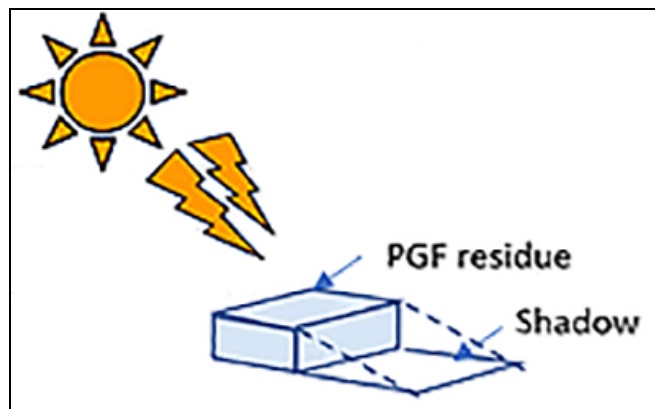

Figure 2
- Since the adhesive residue is transparent and difficult to see, it is advised to change viewing angles. After adjusting viewing angle, the adhesive residue is visually recognized as a portion of a convex shadow (Figure 2).